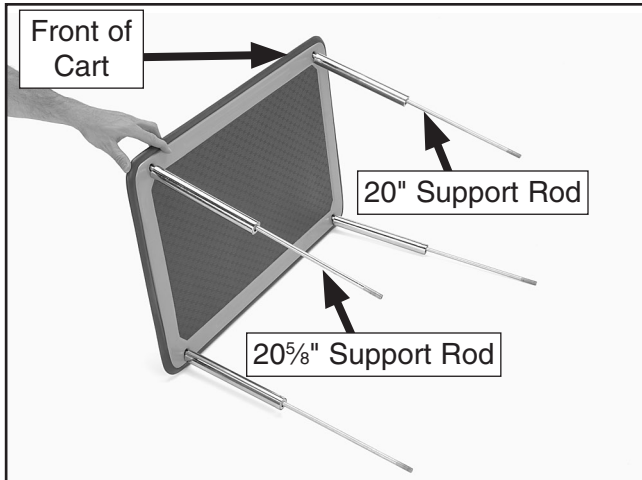

Figure 3. Lower shelf installed.
- Repeat **Step 1** with the remaining support rods (see **Figure 3**), making sure to install the two 20" rods on the front end and the 20⁵/₈" rods on the back end of the shelf.